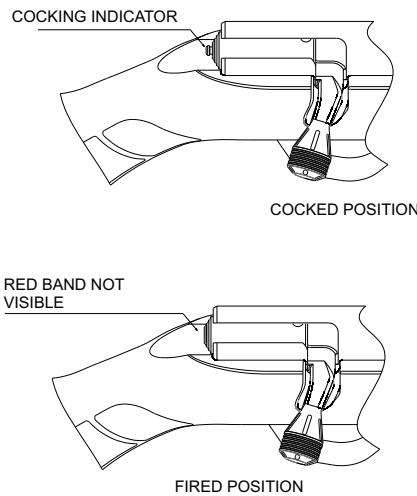

Fig. 4
- D. The bolt assembly has a cocking indicator to indicate when the action is cocked and ready to fire. Push the bolt fully forward and rotate the bolt handle clockwise and down to the "closed bolt" position. Observe the cocking indicator at the end of the bolt (Fig. 4). The cocking indicator protrudes from the bolt exposing a red band. If a cartridge is chambered, the rifle will fire if the safety button is moved to the left to the "OFF" (FIRE) position and the trigger is pulled. When the rifle is fired the cocking indicator moves forward inside the bolt, and the red band is no longer visible .